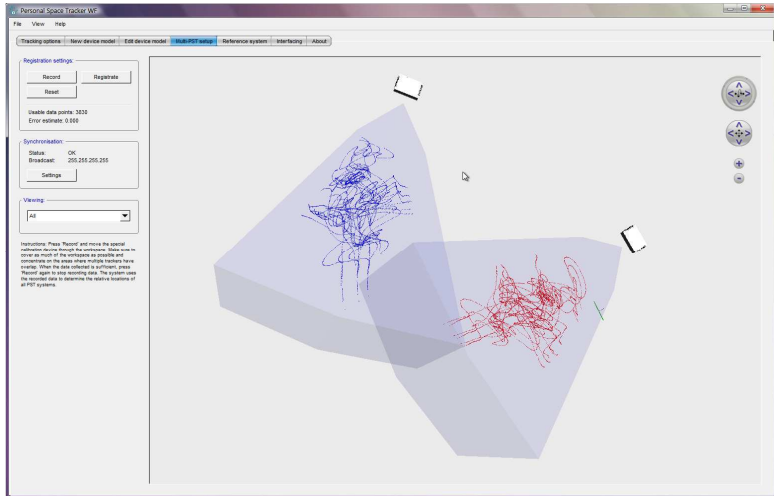

Figure 6.16. PST window in registration mode
- When enough data has been collected, press the record button again to stop recording data. The registration window shows the recorded data points and the field of view of the tracking units. Note that at this time, the position and orientation of the trackers may still be incorrect. Check that all tracking systems have a set of 3D points, drawn in a different color for each tracker (see Figure 6.16).